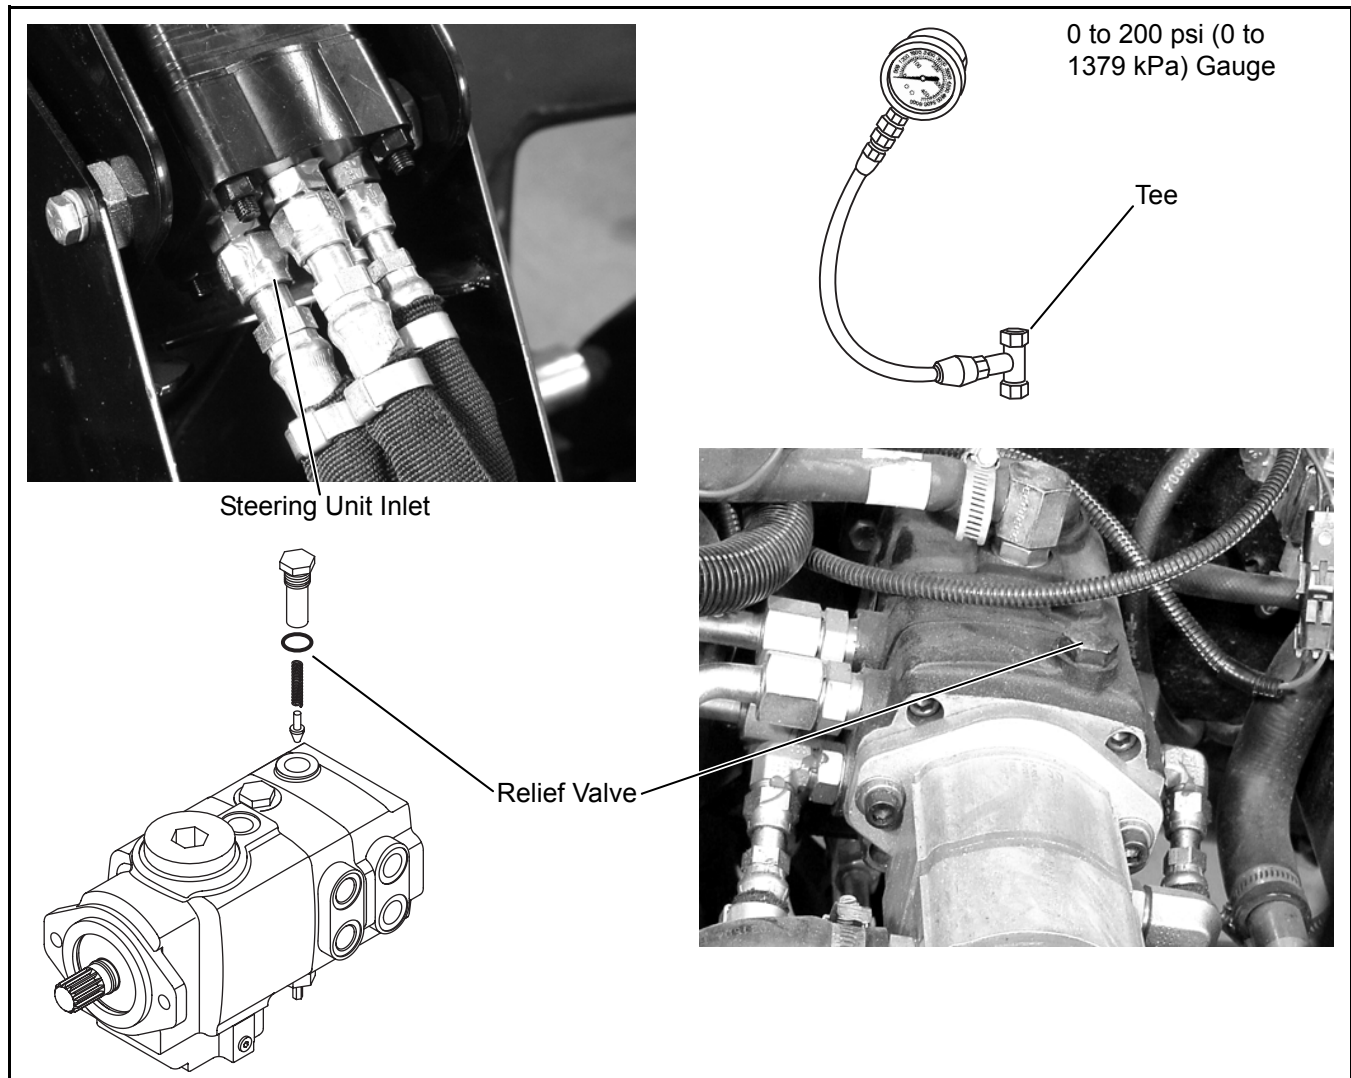

Figure 8O-2. Charge Pressure Test
The charge relief valve (Figure 8O-2) cannot be repaired or adjusted. Replace if damaged or faulty.
2. Install a 2000-psi (13790 kPa) pressure gauge and in-line tee between the steering unit outlet and the supply hose, see Figure 8O-3.